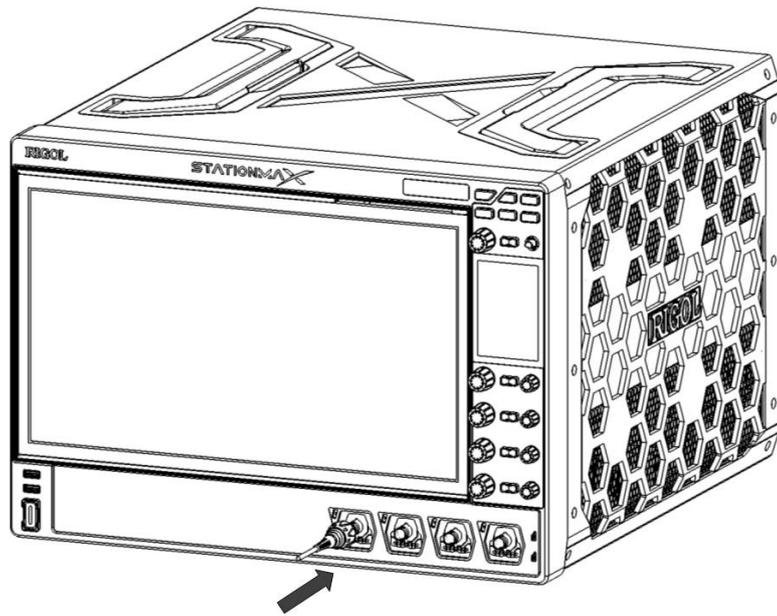

Figure 4.4 Connect the Passive Probe
1. Connect the BNC terminal of the probe to an analog channel input terminal of the oscilloscope on the front panel as shown in Figure 4.4.